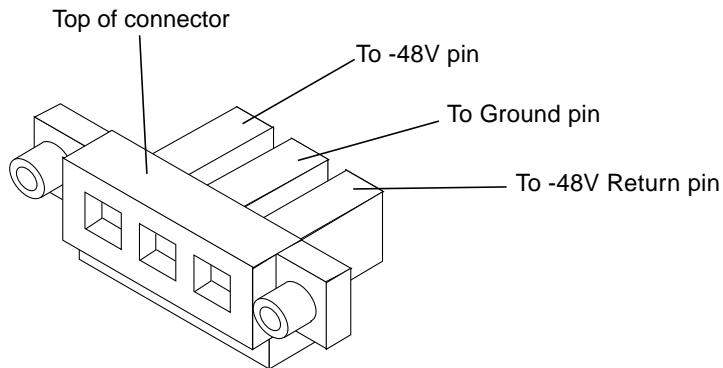

FIGURE 2 DC Plug Connector
2. Get two DC plug connectors from the ship kit (FIGURE 2).